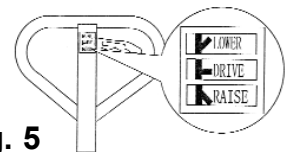

Fig. 5
NOTE: The control lever on the operating handle is a 3-position lever. Refer to Fig. 5.
- 4.3 Set the control lever (3) on the operating handle (1) to the **LOWER** position. Refer to Fig. 5.
- 5.1 The operating handle control lever can be set to one of three positions, as shown in Fig. 5. They are: